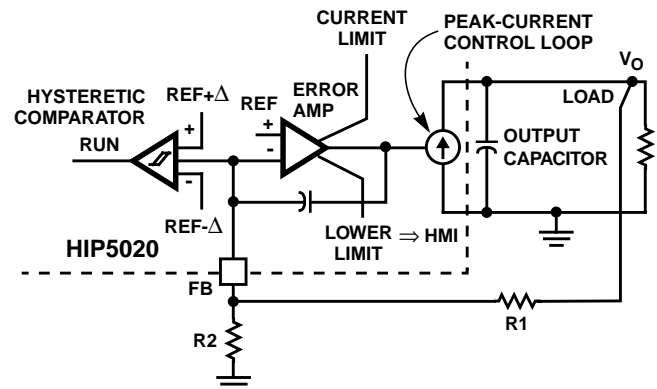
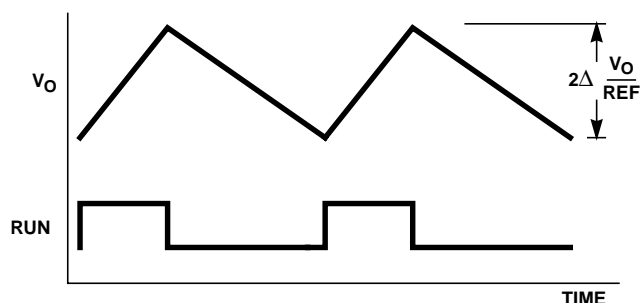
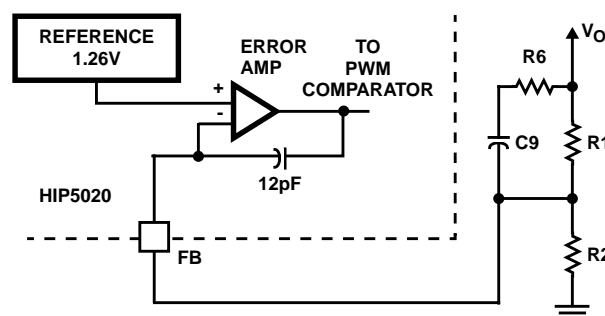

FIGURE 5. SIMPLIFIED DIAGRAM OF OUTPUT VOLTAGE REGULATION AND MODE SWITCHING
FIGURE 7. TYPICAL HYSTERETIC MODE OPERATION
FIGURE 8. LEAD-LAG COMPENSATION CIRCUIT
When averaged over many switching cycles, the entire peak-current control loop can be simplified and described as a voltage controlled current source. Figure 5 shows a simplified diagram of this operation. The current source supplies the output capacitor and load. The outer voltage regulation loop consists of an error amplifier and compensation components. The error amplifier programs the inductor current (as described above) to the value required to regulate the output voltage. Both the error amplifier and hysteretic comparator monitor the feedback (FB) pin. During the Run mode, the feedback node voltage ( $V_{FB}$ ) is held to the reference voltage (REF) by the voltage feedback loop.  $V_{FB}$  is related to  $V_o$ , R1 and R2.
The HIP5020 operates in the hysteretic mode with low output current. In this mode, the hysteretic comparator cycles the control on (RUN = High) and off (RUN = Low) as a function of the output voltage and the FB voltage level. Figure 7 illustrates the averaged Hysteretic Mode operation with reference to Figure 5. At light load, the error amplifier output voltage is held to the HMI voltage ( $V_{HMI}$ ). This level commands an inductor current that exceeds the load current. The excess current flows into the output capacitor which increases the output voltage ( $V_O$ ). The voltage feedback loop no longer holds  $V_{FB}$  at the reference voltage. When  $V_{FB}$  increases to the Upper Hysteretic Trip Level, the RUN signal transitions Low to power-down most of the control's functions, and the load is supplied by the output capacitor. After  $V_{FB}$  (and the equivalent output voltage) drops below the Lower Hysteretic Trip Level, RUN transitions High, turning on the controller. The converter replenishes the charge on the output capacitor (C1). This cycle repeats to regulate the output voltage.
The error amplifier and compensation components regulate the output voltage by controlling the current loop (as shown in Figure 5). The compensation components shown in Figure 8 realize a lead-lag circuit. The resistor R1 adjusts the loop gain of the converter and resistor R6 and capacitor C9 set the pole and zero. The resistor R2 does not appear in the lead-lag transfer function. R2 sets the output voltage level. First stabilize control loop by selecting R1 and then determine R2 for the desired output voltage level.